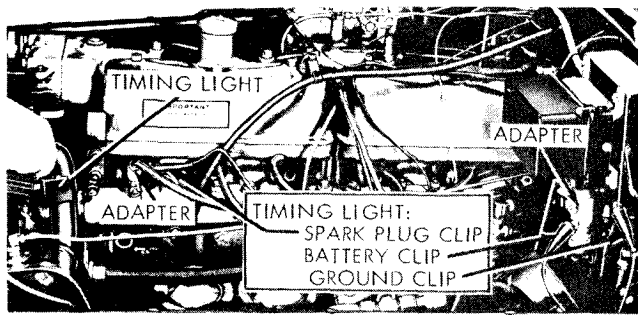

Figure 2-142. Timing light connected to adapters.
**a. General.** The procedure for checking and correcting ignition timing for engines with a sealed ignition system requires special adapters (fig. 2-142) which are part of the electrical connector tool kit.